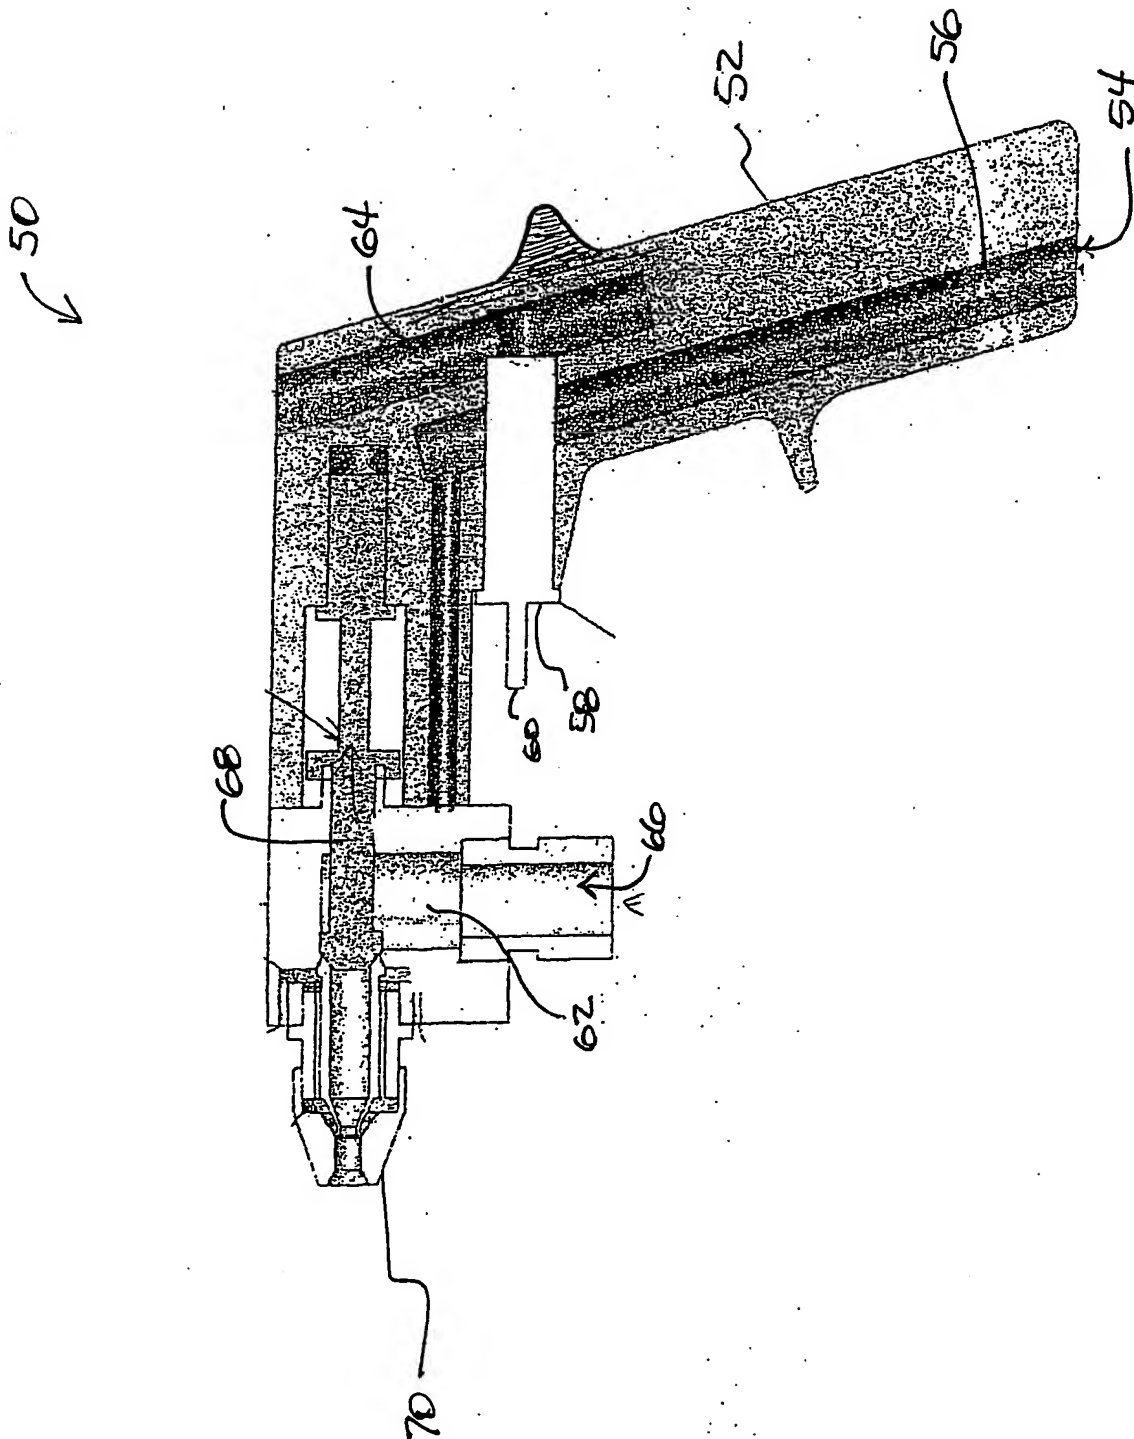

FIG. 1.
FIG. 1 is a perspective view of a mechanical assembly. The assembly includes a main housing (72) with a central opening. Inside, there are two large circular components (76, 82) and a smaller circular component (84). A spring (80) is located between the two large circular components. A rectangular block (78) is positioned on the right side, and a vertical rod (74) is attached to the bottom right. A dashed line (88) indicates a hidden internal feature.